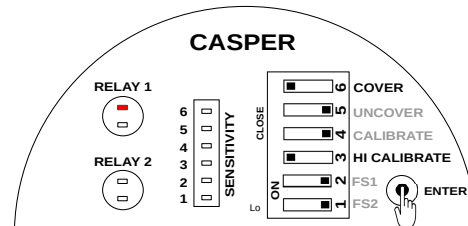

Figure 23: Setting Cover Delay for Relay 2
- Press and hold ENTER key as shown in Figure 23. The STATUS LED for RELAY 1 starts blinking. Blink the LED according to value of cover delay.